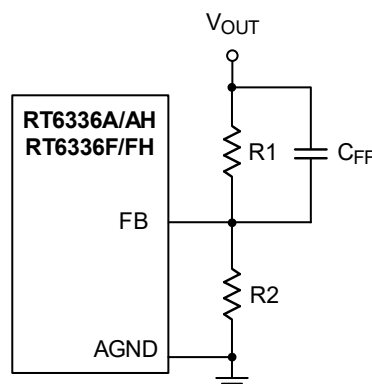
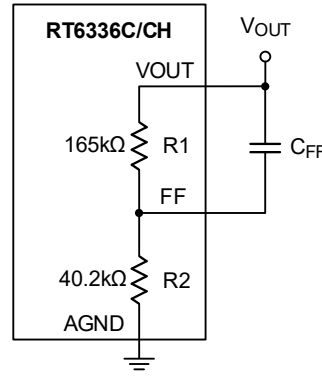
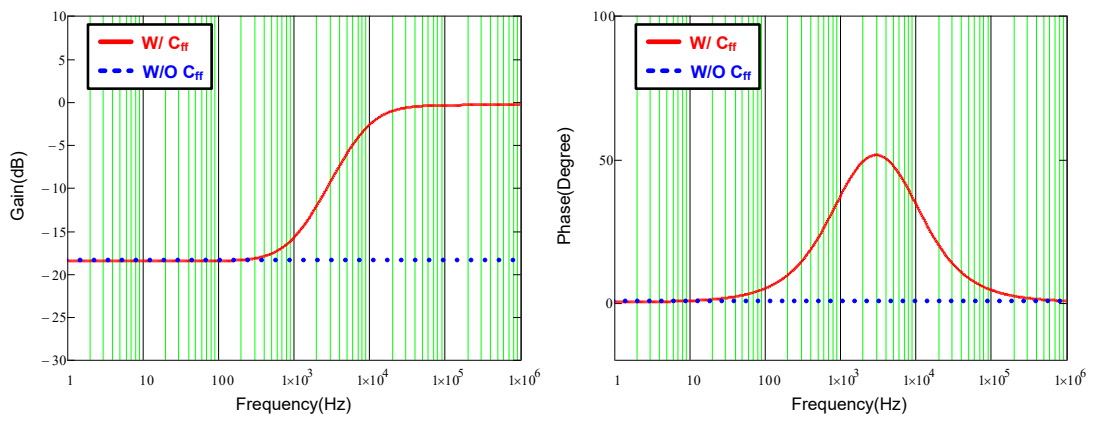

Figure 16. Feedback Loop with Feedforward Capacitor for the RT6336A/RT6336AH/RT6336F/RT6336FH
Figure 17. Feedback Loop with Feedforward Capacitor for the RT6336C/RT6336CH
Figure 18. Bode Plot with Different Feedback Loop Conditions
To save time for compensator design and to reduce the layout area through external components, the components of the compensator are integrated in the IC. However, this integrated compensator might not be suitable for every load transient specification. Hence, to make the device more adaptable, the feedforward capacitor CFF is used in the feedback loop to improve transient response, as shown in Figure 16 and Figure 17. Figure 18 shows the comparison result of the bode plot with different feedback loop conditions. Referring to Figure 18, by connecting a CFF in the feedback network, the gain and phase are raised in the mid-frequency range, which not only extends the bandwidth, but also boosts the phase margin. Moreover, there is also a high-frequency pole to eliminate high-frequency noise. Consequently, those features of the feedforward feedback network allow the device to have faster response to different load transients.
According to Figure 18, the maximum phase boost that occurs between the zero and pole frequencies is defined as the maximum phase boost frequency, as expressed in equation (4). Hence, in order to achieve the maximum phase boost by adding C_{FF} in the device, the system's original bandwidth has to be located at maximum phase boost frequency.